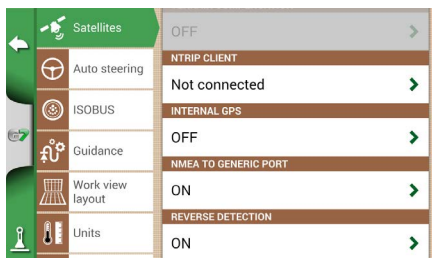

Figure 6.2.2.a - Satellites settings page
3. Fill the text fields shown in Figure 6.2.2.b (data provided by your dealer or by your NTRIP provider):